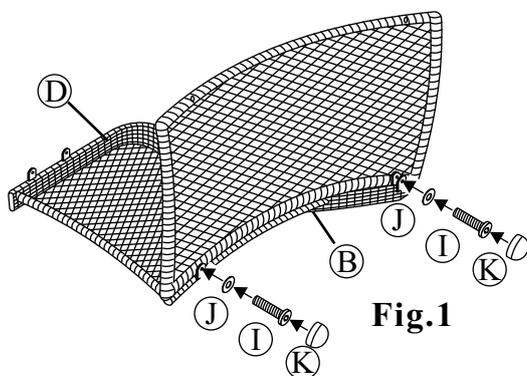
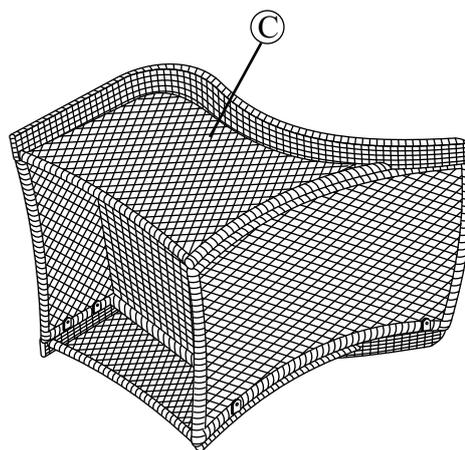
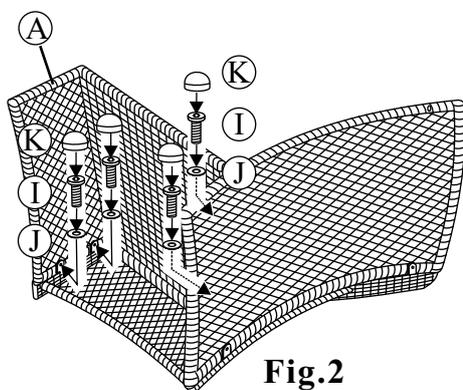

Fig.1
Fig.3
Fig.2
- 1 Assemble furniture on a smooth, non-abrasive surface. Attach the back frame to right arm by using two 1/4"x18 mm bolts and washers as shown in **Fig.1**. Guide the bolts through holes in back frame, into pre-drilled holes in the right arm. **Hand tighten only**. Attach the seat frame to right arm and back frame by using four 1/4"x18 mm bolts and washers as shown in **Fig.2**. **Hand tighten only**. Attach the left arm to back and seat frame by using four 1/4"x18 mm bolts and four washers as shown in **Fig.3**. **Hand tighten only**.
Attach the seat frame to the back frame by using four 5/16"x40 mm bolts and washer as shown in *Figure 1*. Guide these bolts through the holes in the seat frame, into the fixed nuts already in place in the back frame. **Do not over tighten.**